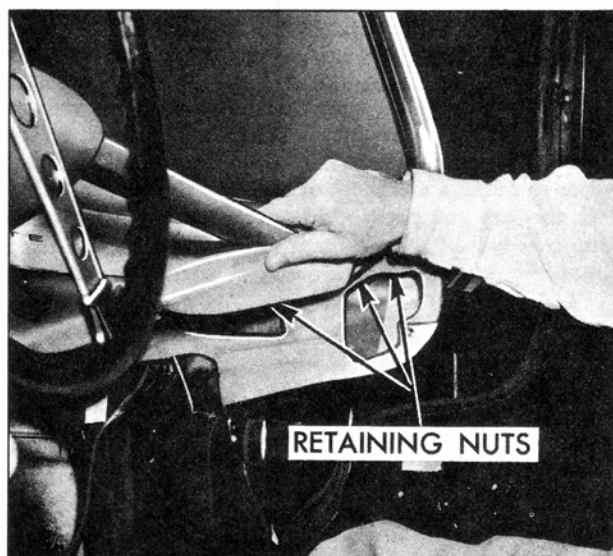

Fig. 3—Folding Instrument Panel Pad
3. At each end of windshield, fold pad up and away from panel to gain access to 3 windshield retaining nuts; remove nuts (fig. 3).